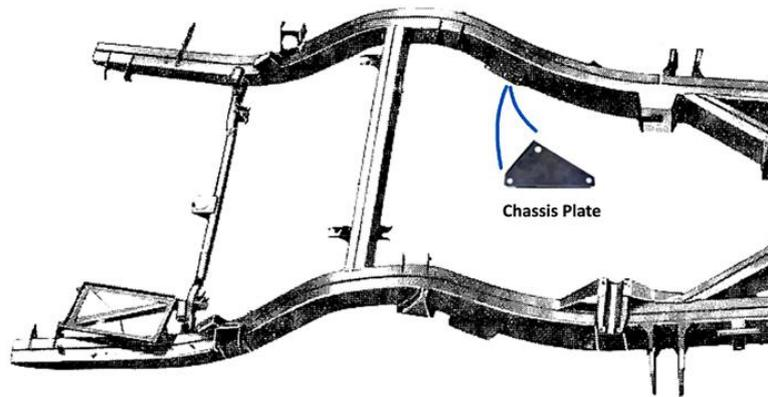

Fig. 2 Fixing the Chassis to Rear Anti-Roll Bar Plate
- b) The chassis plates are fitted to the inside of the shock absorber mountings, as shown in Fig. 2.